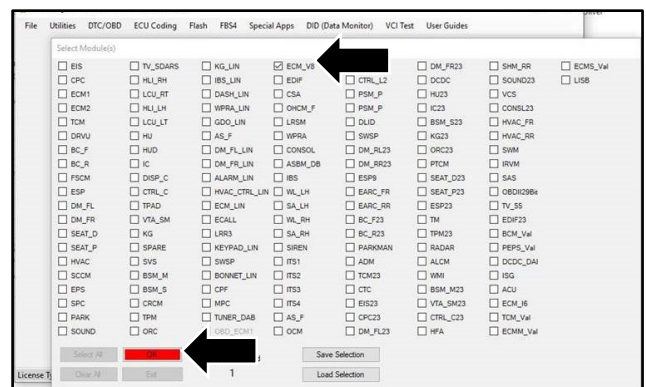

Figure 13
23. Select "ECM\_V8" then "OK" (refer to Figure 13).